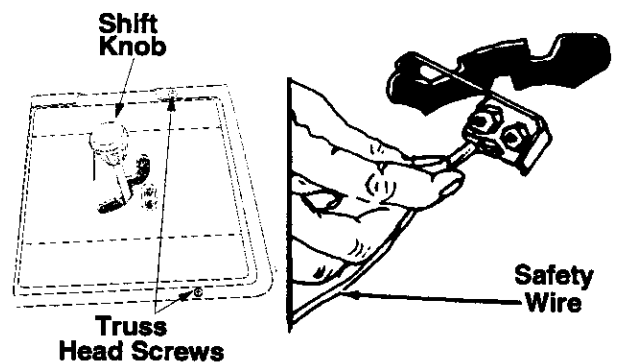

Figure 27
1. Place shift lever in neutral position. Unscrew the shift knob and the speed control knob (if located on the console). Remove the two truss head screws which secure the transmission cover. See Figure 27.
2. Lift the transmission cover. Unplug the safety wire from beneath the transmission cover. See Figure 27. Remove transmission cover.